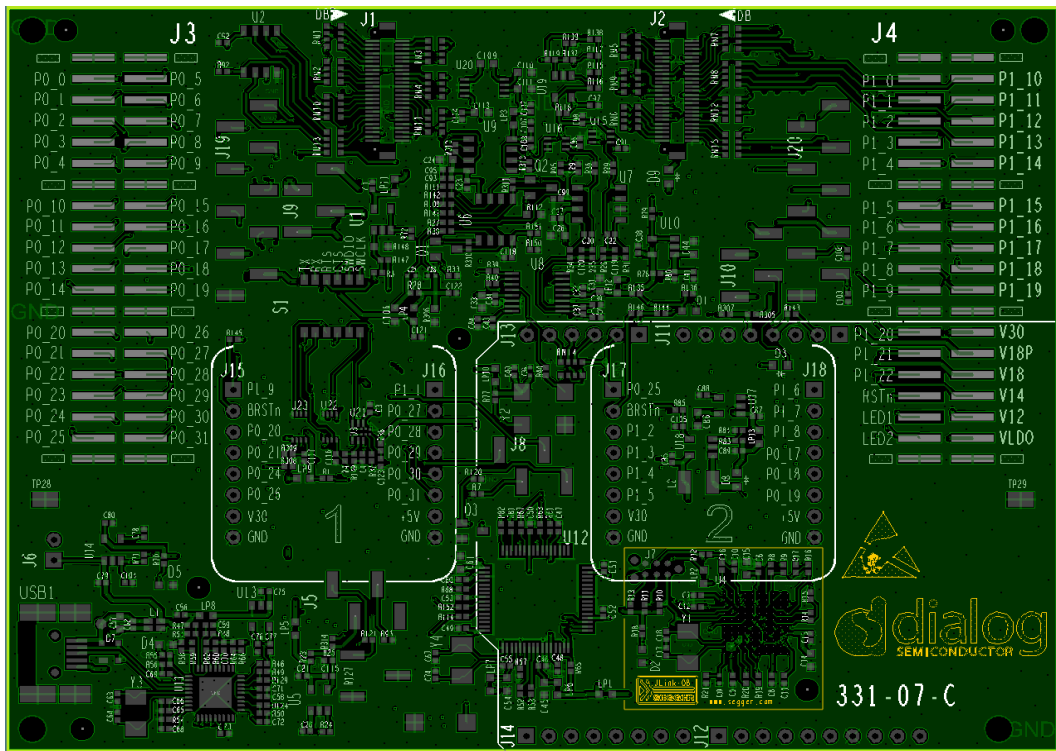

Figure 56: DA1469x DK Pro Motherboard: 2522-mb-pro\_331-07-x
- PRO-motherboard: 2522-mb-pro\_[331-07-x], Figure 56